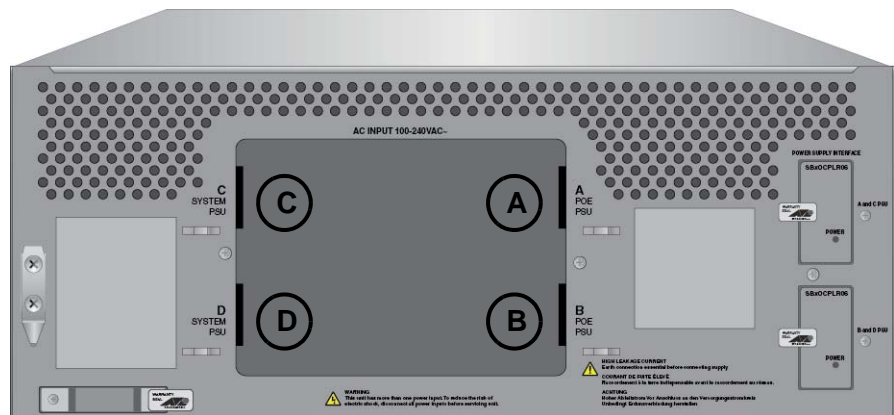

Figure 119. AC Sockets on the AT-SBx3106 Chassis Rear Panel
1. Identify AC sockets C and D in the recessed panel on the back panel of the chassis, shown in Figure 119. The sockets are for the system power supplies in slots C and D on the front panel of the chassis.
1. Identify AC sockets A and B in the recessed panel on the back panel of the chassis, shown in Figure 119 on page 183. The sockets are for the AT-SBxPWRPOE1 Power Supplies in slots A and B on the front panel of the chassis.